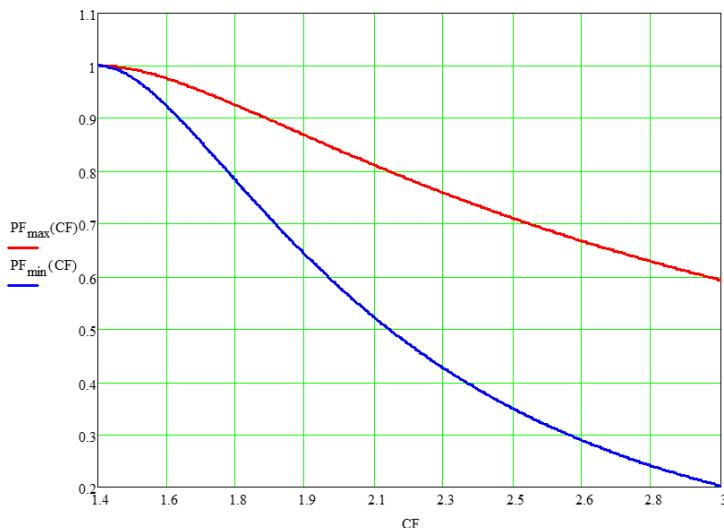

Figure 7-4 Relationship between PF and CF
According to theory, the relationship between maximum PF and CF is shown in Figure 7-4
2. If Both mode is selected in CC mode (see section 7.4.6) and CP mode (see section 7.4.7), CF and PF values need to be entered at the same time. In Both mode, the priority of CF and PF needs to be set again. If the setting exceeds the range shown in Figure 7-4, the regenerative AC load will automatically change the setting to a valid range as explained in the following 2 examples.